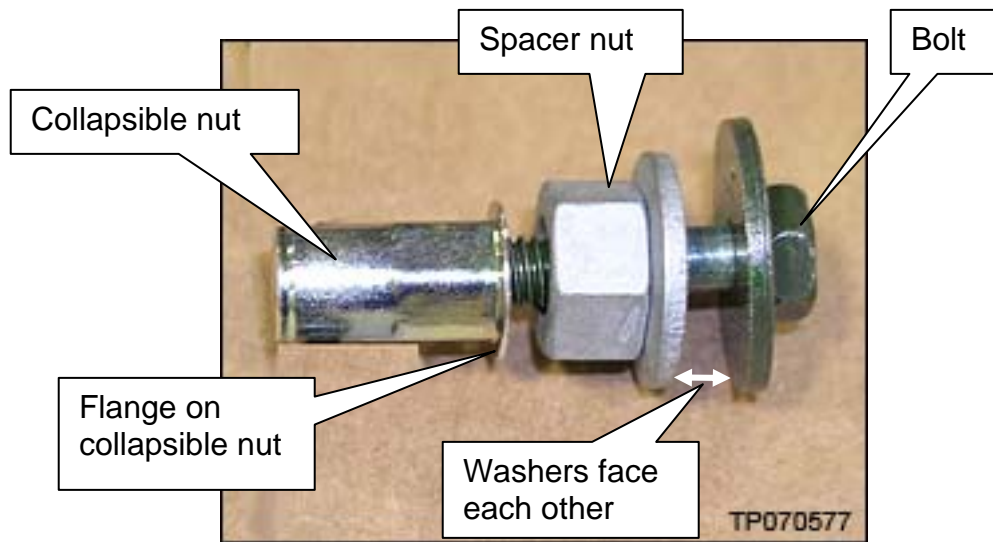

Figure 4
- b. Finger tighten the assembly in Figure 4.